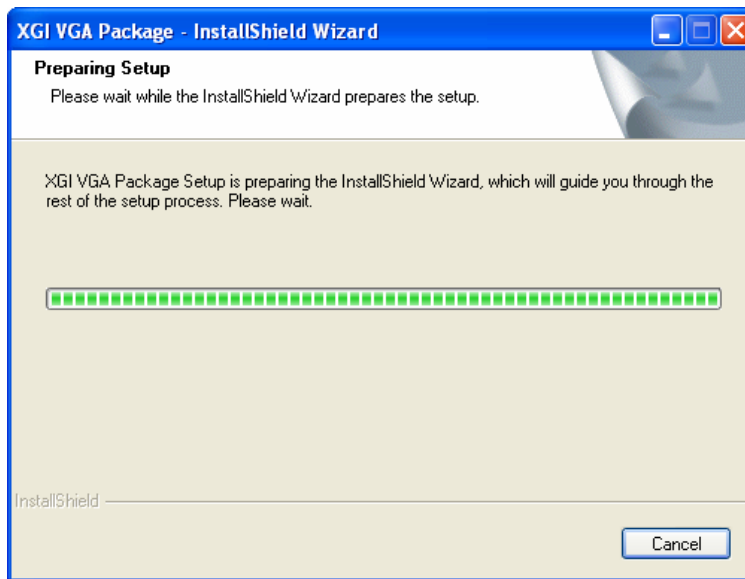

Figure 7-9: Preparing VGA Driver Setup
Step 2: The setup program is prepared as shown in **Figure 7-9**.